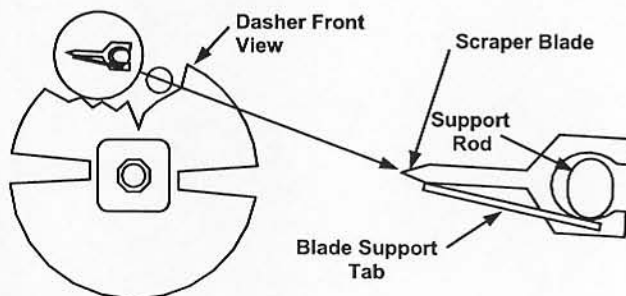
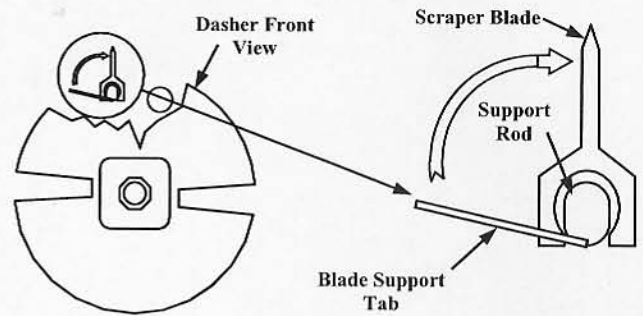

Fig. 14a
Fig. 14b
- Remove the blades from the dasher assembly - Fig. 14a - by first rotating the blade upward - Fig. 14b and then unsnapping one end from the support rod.